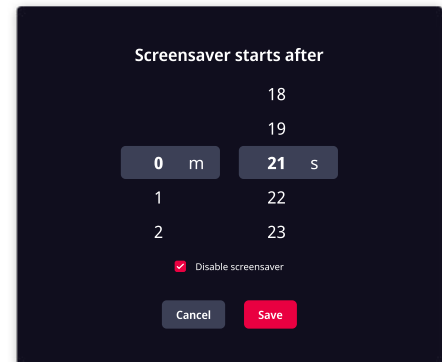

Fig. 71
- Screensaver can be turned off entirely (Fig. 71).